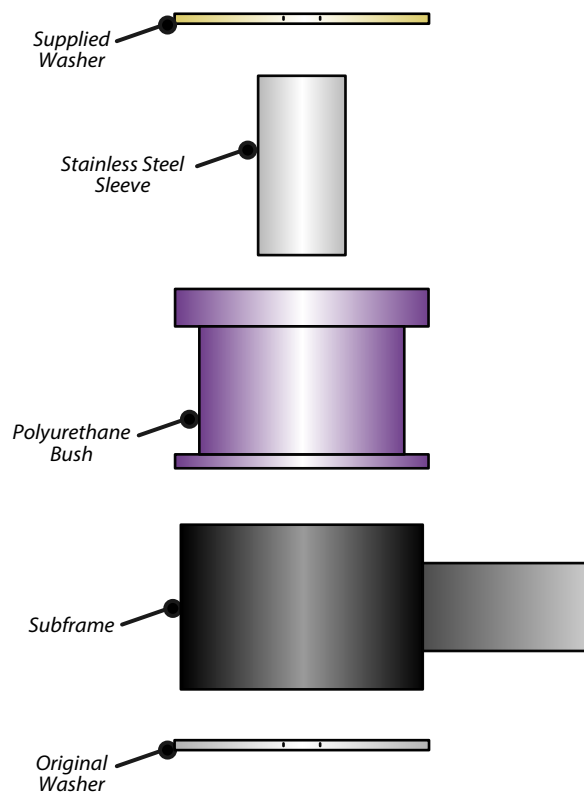

Figure 1
5. The new washer fits between the top face of the bush and the chassis, use the original bolt and washer when refitting. See fig 1.